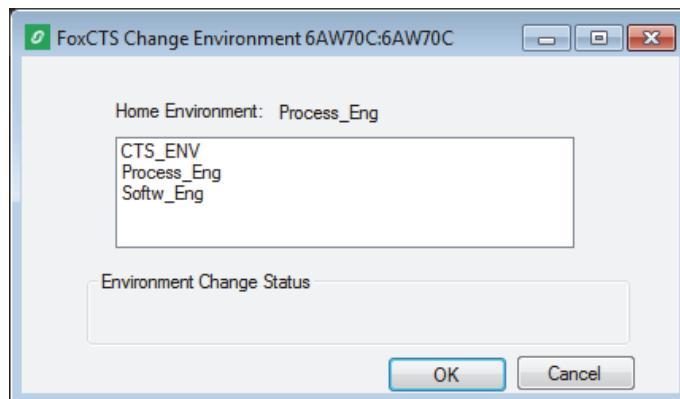

Figure 3. FoxCTS Change Environment Box
- After successful FoxCTS login, only the environments configured for the FoxCTS user appear in the change environment pop-up list, as shown in Figure 3.